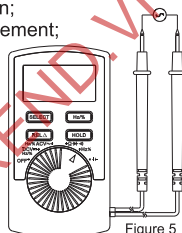

Figure 5
4. Measuring Frequency and Duty Cycle(See Figure 5)